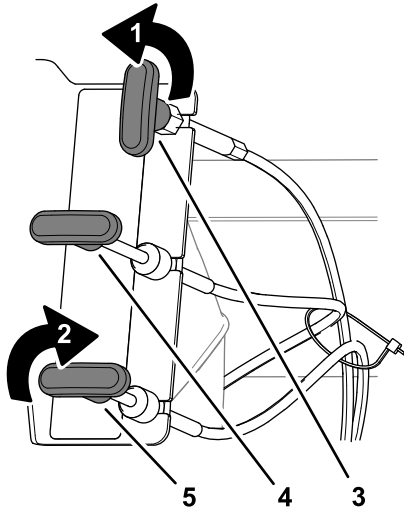

Figure 19
1. Rotate the handle of the hopper-door control counterclockwise to unlock the control (Figure 19).
3. Rotate the handle of the hopper-door control clockwise to lock the control (Figure 19).
1. Rotate the handle of the deflector control counterclockwise to unlock the control (Figure 19).
3. Rotate the handle of the deflector control clockwise to lock the control (Figure 19).
1. Rotate the handle of the diffuser control counterclockwise to unlock the control (Figure 19).
3. Rotate the handle of the diffuser control clockwise to lock the control (Figure 19).